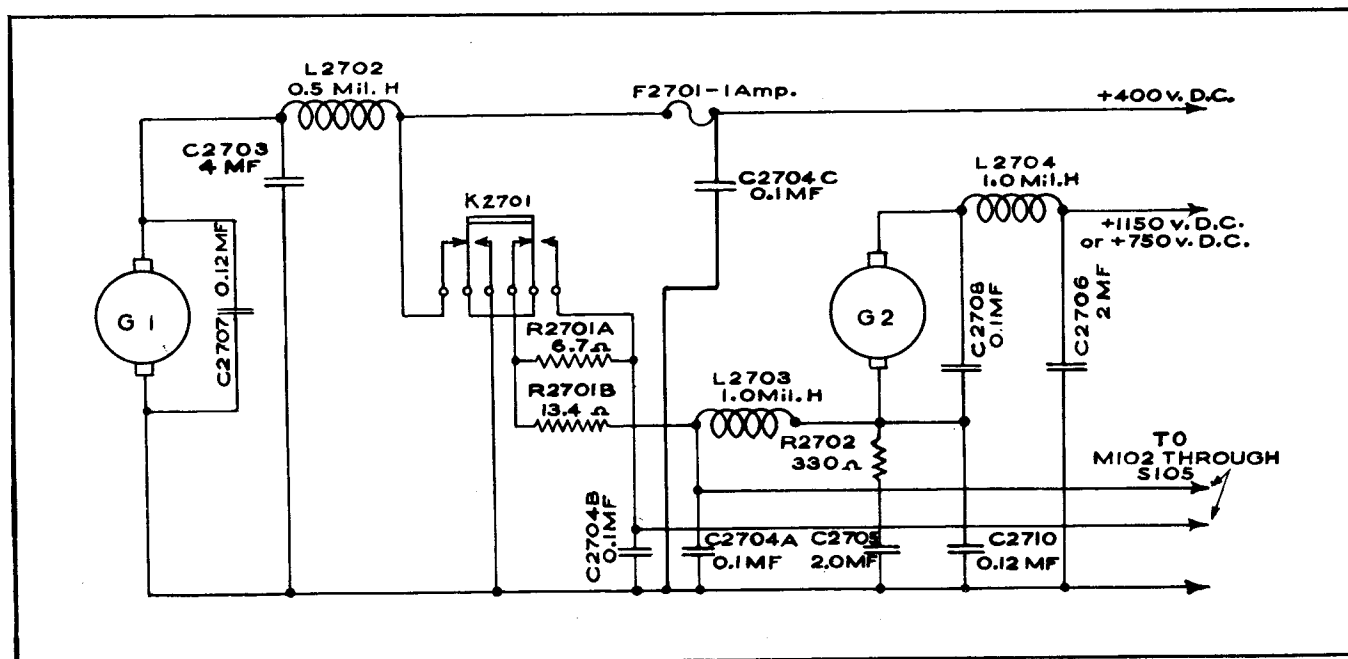

Figure 4-4. High Voltage Circuits
c. HIGH VOLTAGE CIRCUITS.—Figure 4-4 shows, in simplified form, the high voltage circuits employed in the equipment.
(1) The dynamotor employs an armature with dual windings and two commutators to give output voltages of 400 volts d-c and 750 volts d-c. (The Eicor unit has slightly higher output voltages of 410 and 780.) To obtain the high voltage necessary for application to the power amplifier and modulator tubes, the 400 volt output is connected in series with the 750 volt output of the dynamotor. On the diagrams, figure 4-4 and figure 8-42, the low voltage section of the dynamotor is designated as G1 and the high voltage section is